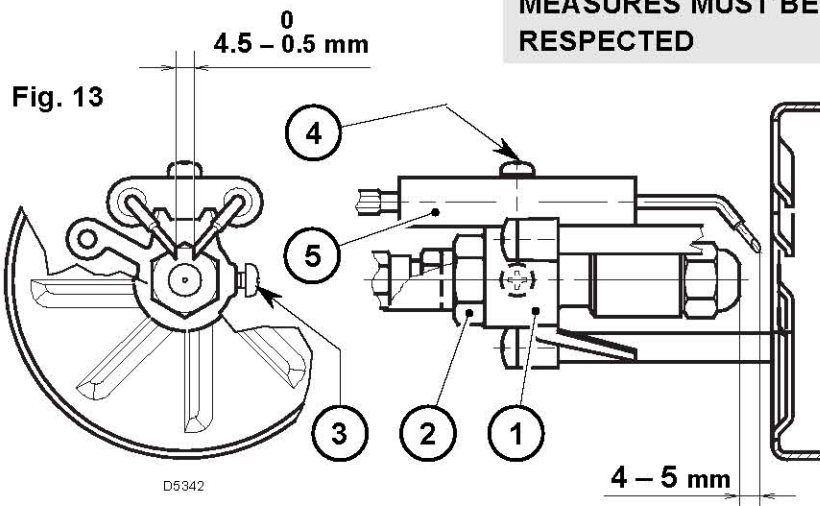

Fig. 13
- Hook the burner to the flange (1), by removing the blast tube (2) after loosing the fixing screws (3).
- Remove the small cables (4) from the electrodes and the diffuser disc-holder assembly (5) from the nozzle-holder assembly after loosing its fixing screw (3, fig. 13, page 7).
- Screw the nozzle (6) correctly and tighten it as shown in the figure.
- Remove nozzle-holder assembly (1) after loosening screws (2) and nut (3), remove the small cables (4) from the control box and the photoresistance (5).
- Withdraw the small cables (4) from the electrodes, remove the diffuser disc-holder assembly (8) from the nozzle-holder assembly (1) after loosening screw (3, fig. 13).
- Screw the nozzle (9) correctly and tighten it as shown in figure.
4.4 ELECTRODES ADJUSTMENT (see fig. 13)
- Replace the nozzle (see fig. 12, page 7) and check the correct position of electrodes (fig. 13, page 7).